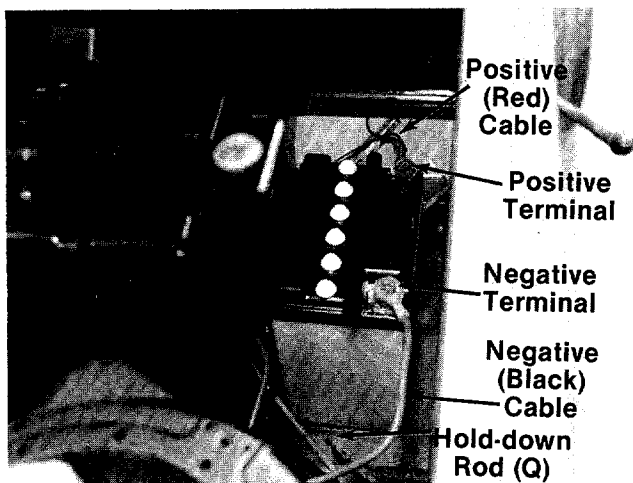

FIGURE 17.
1. Hook the battery hold-down rods into the holes in the frame. See figures 17 and 18.
2. Place the battery in the rider with the positive terminal to the front. The negative terminal goes to the rear of the unit. See figure 17.
4. Place the negative (heavy black) cable on the negative terminal. Secure with bolt, nut and lock washer provided with battery. See figure 17.